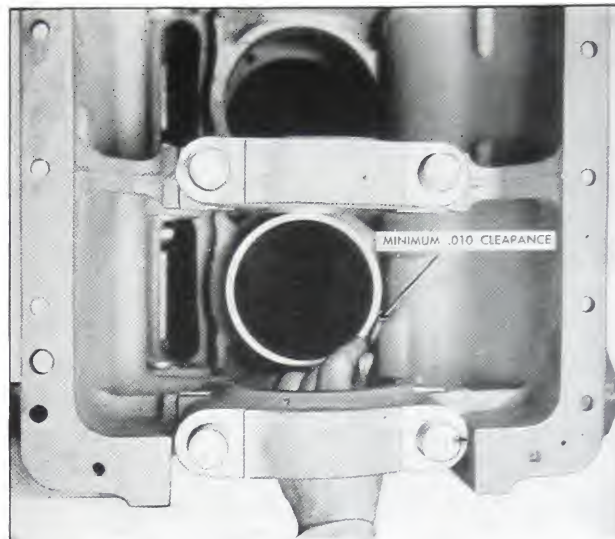

Fig. 2-24. Cylinder liner-block clearance "C"
5. There must be at least .010 clearance at the closest point between the crankcase and the part of the cylinder liner that projects into the crankcase below packing rings. If the wall of the crankcase is closer than .010 to the liner at any point, obtain the clearance by grinding the block with a hand grinder. Fig. 2-24.